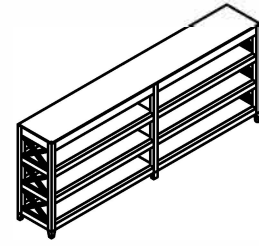

Figure 1
2. Attach two side panel to Top No.1 using Bolt (B), Lock Washer (C), Flat Washer (D) and tighten with Allen Wrench(A). As shown in Figure 1.